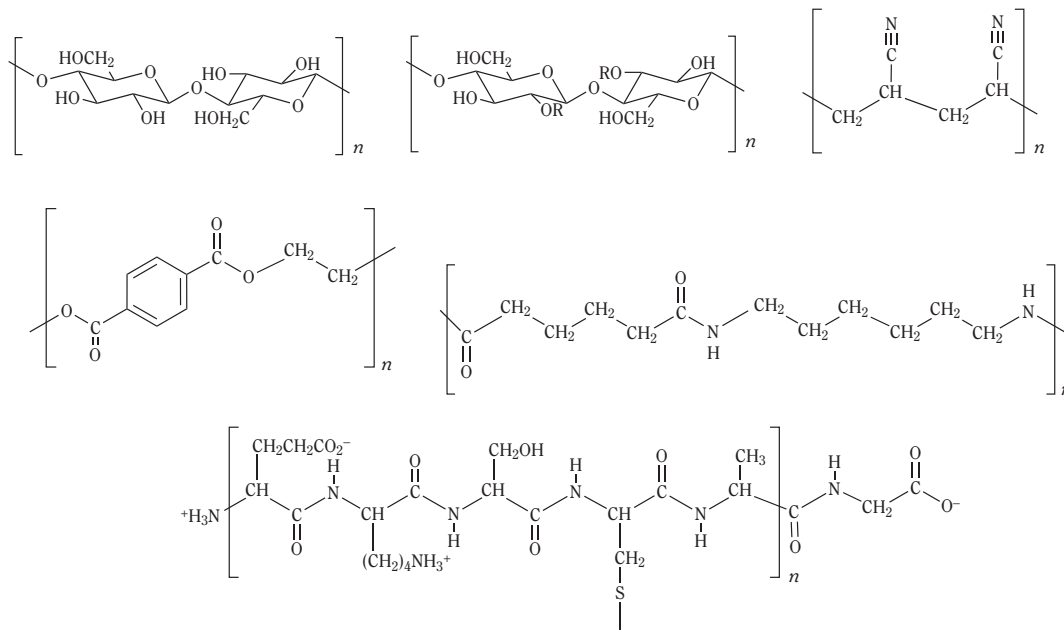

Figure 1. Chemical Structures of Fabric Molecules.
The chemical structures of six common fabrics are shown in Figure 1. Cotton and wool are natural fibers while acrylic, polyester, and nylon are synthetic. Acetate, also called cellulose acetate, is prepared by chemical modification of natural cellulose. All of the fabrics are polymers. These are high-molecular weight, long-chain molecules made up of multiple repeating units. The structures of the repeating units are enclosed in brackets.
3. *Consult Figure 1:* What feature stands out as unique in the structure of the fabric that was the easiest to dye? What feature stands out as unique in the structure of the fabric that was hardest to dye?